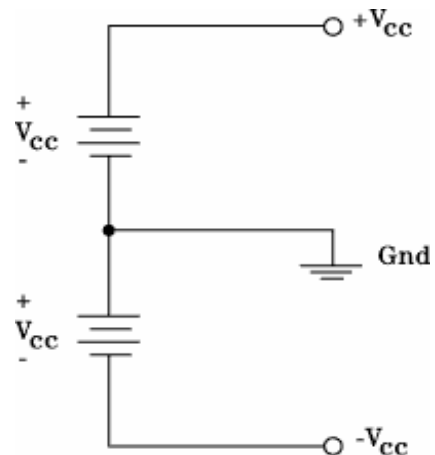

Figure A-2
*Powering the op-amp:* The two DC sources, (labeled as  $V_+$  and  $V_-$ , but also often labeled as  $\pm V_{CC}$ ), that provide power to the op-amp are typically set to have an equal magnitude but opposite sign with respect to the ground of the circuit. This enables the circuit to handle an input signal which oscillates around 0 volts, like most of the signals we use in this course. (Note the signs on the sources in the circuit above.) The schematic in figure A-2 shows a standard  $\pm V_{CC}$  configuration for op-amps. The schematic symbols for a battery are used in this schematic to remind us that these supplies need to be a constant DC voltage. They are not signal sources.